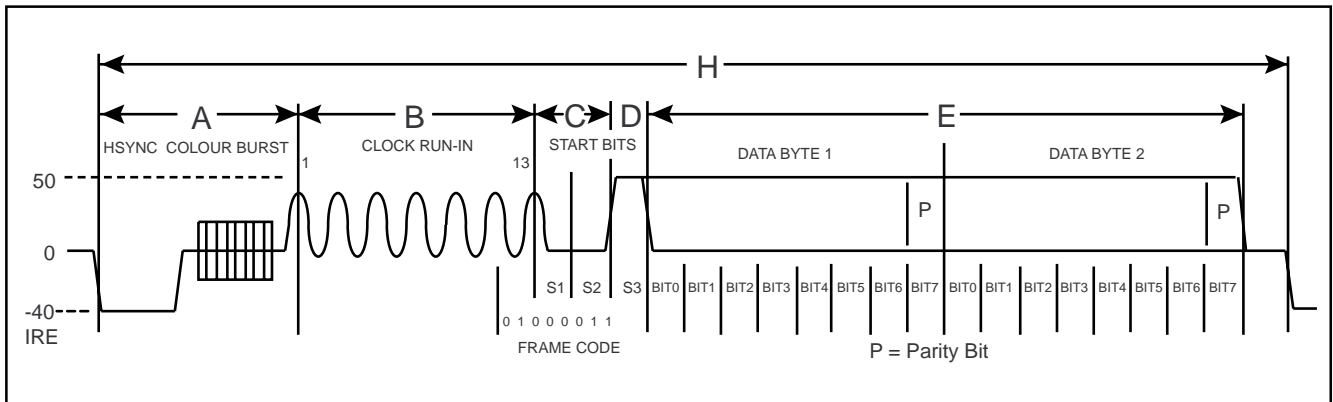

Figure 7 Closed Caption format
Two bytes of data are coded on the line 21 of each field, see figure 7. In the NTSC Closed Caption service, the default state is to code on line 21 of field one only. An additional service can also be provided using line 21 (284) of the second field. The data is coded as NRZ with odd parity, after a clock run-in and framing code. The clock run-in frequency = 0.5034965MHz which is related to the nominal line period, D = H / 32.